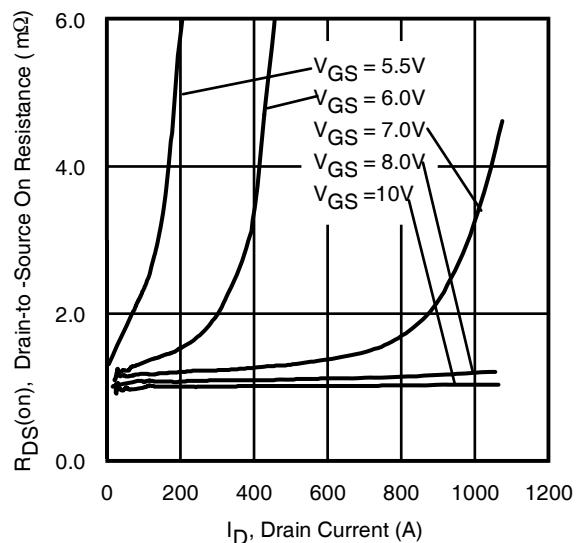

Fig 13. Typical On-Resistance vs. Drain Current
- $Z_{thJC}(D, t_{av})$ = Transient thermal resistance, see Figures 13